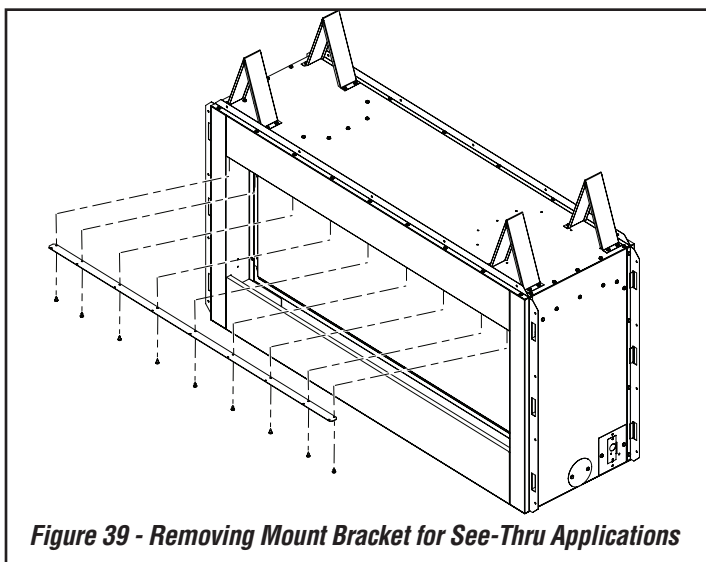

Figure 39 - Removing Mount Bracket for See-Thru Applications
2. Unscrew mount bracket from top face as shown in **Figure 39, Page 28**. Discard mounting bracket and replace screws.